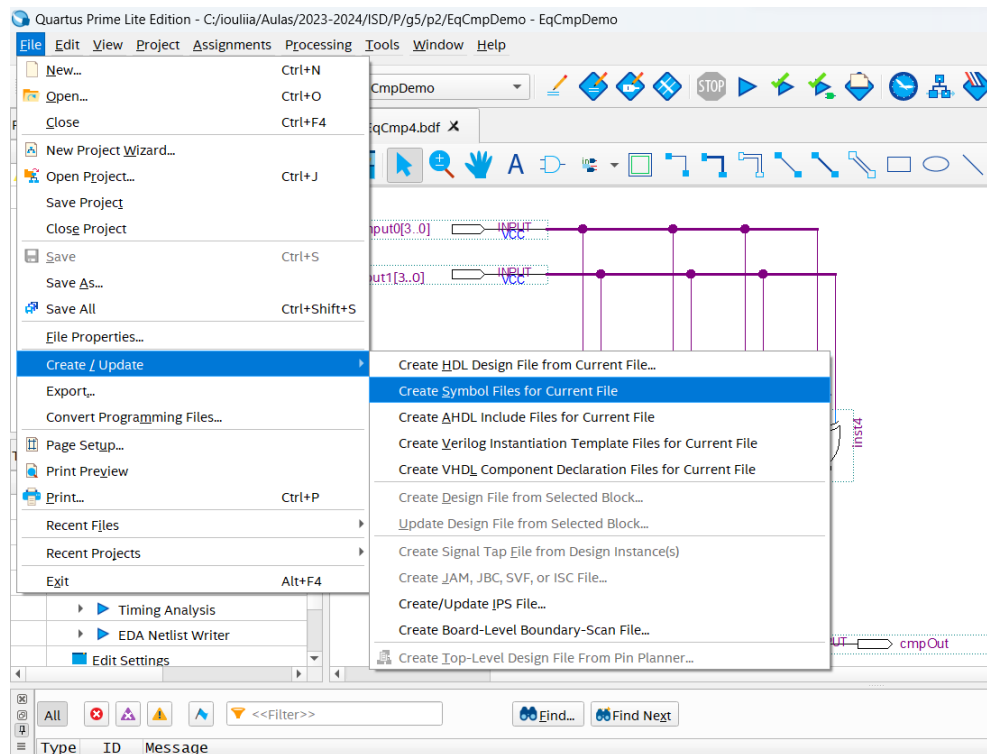
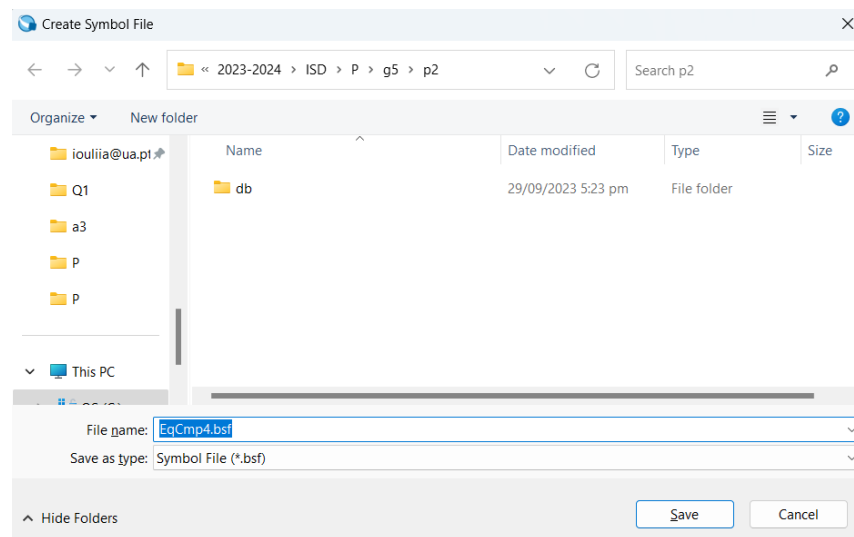

Figure 27 - Creation of a symbol for the “EqCmp4” module.
Figure 28 - Recording of file “EqCmp4.bsf” relative to module symbol “EqCmp4”.
3. Create a symbol for the “EqCmp4” module so that it can be used in a schematic diagram as shown in Figure 27 and write it with the name “EqCmp4.bsf” (Figure 28).